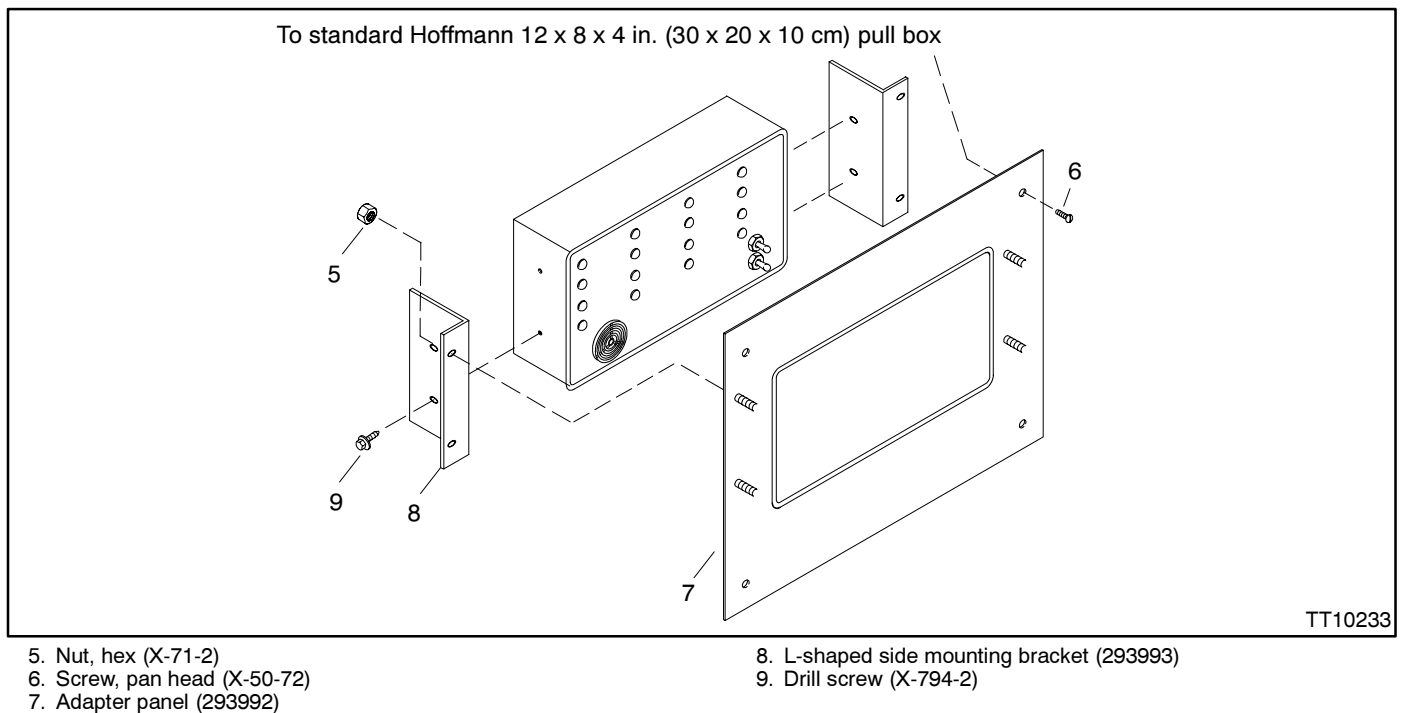

Figure 8. Flush-Mount Annunciator Installation
1. Disassemble the annunciator box. Remove the side panels and separate the front and back annunciator panels. The side panels will not be reused. Retain the drill screws (X-794-2) for reassembly. See Figure 8 for additional flush-mount instructions.
3. After wiring the 14-relay dry contact box to the annunciator panel, reassemble the front panel to the back panel using the existing drill screws. See Figure 8.
4. Loosely attach the L-shaped side mounting brackets (293993) to the back panel using the existing drill screws. See Figure 8.
5. Loosely attach the front adapter panel studs to the L-shaped side mounting brackets using 6-32 hex nuts (X-71-2). See Figure 8.